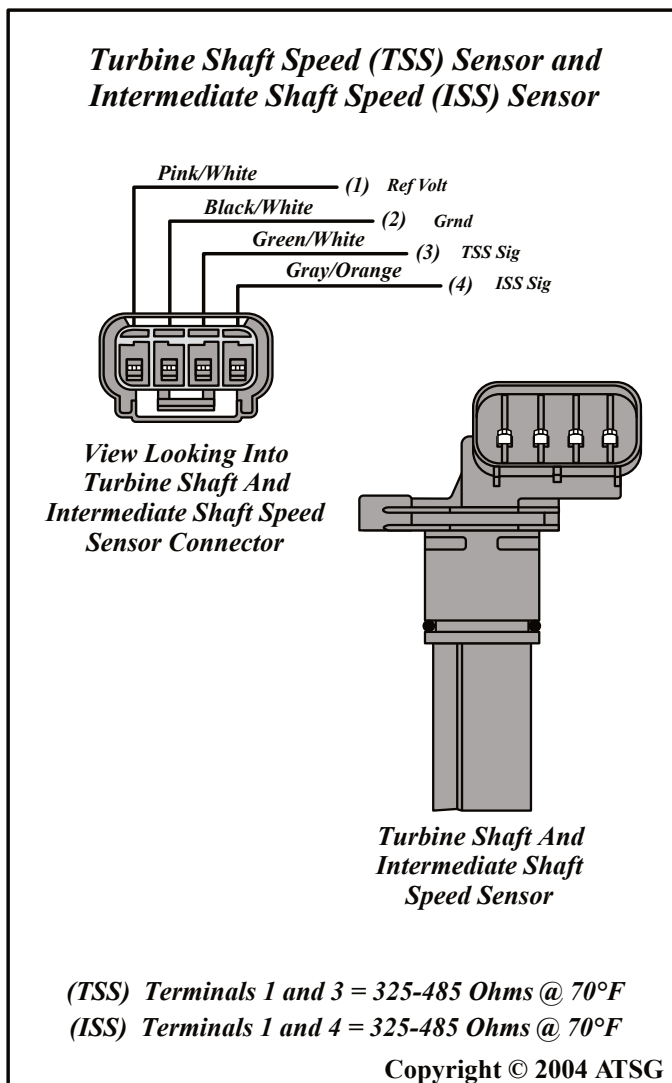

Figure 184
45. Check turbine/intermediate shaft speed sensor as shown in Figure 184.